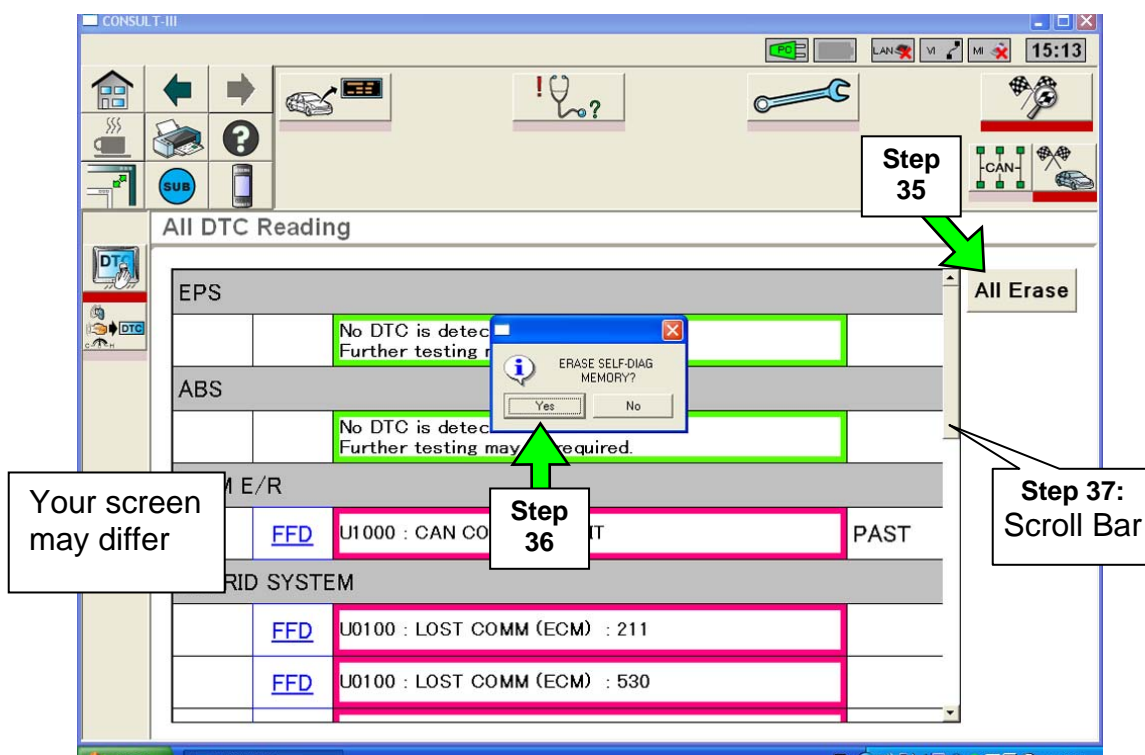

Figure 18
35. When the screen in Figure 18 appears, click on **All Erase**.
36. Click on **Yes** (see Figure 18).
37. Use the scroll bar to scroll down the page and make sure all DTCs are erased (see Figure 18).